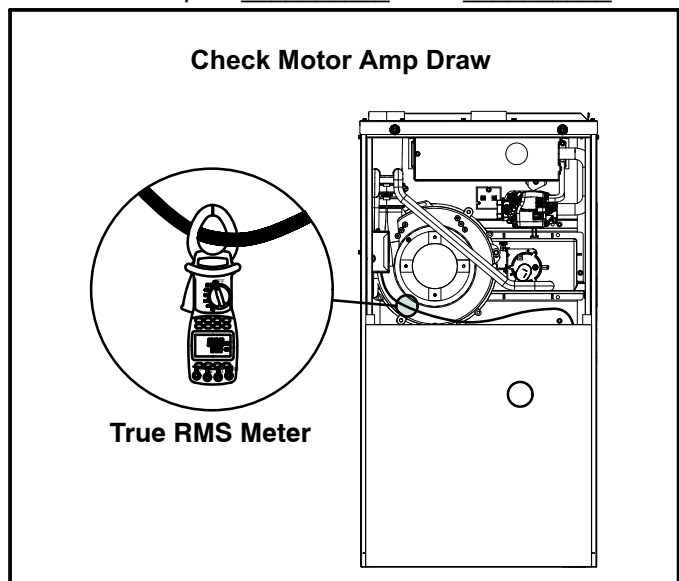

FIGURE 61
- 3 - Check amp-draw using a true RMS meter on the blower motor with blower access panel in place. See figure 61.